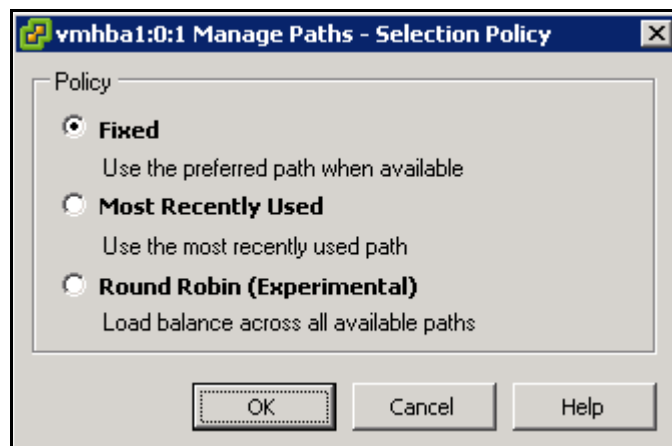

Figure 4-14: Manage Paths - Selection Policy Dialog Box
7. The default policy is **Most Recently Used**. The recommended path policy is **Fixed** as shown in Figure 4-14.